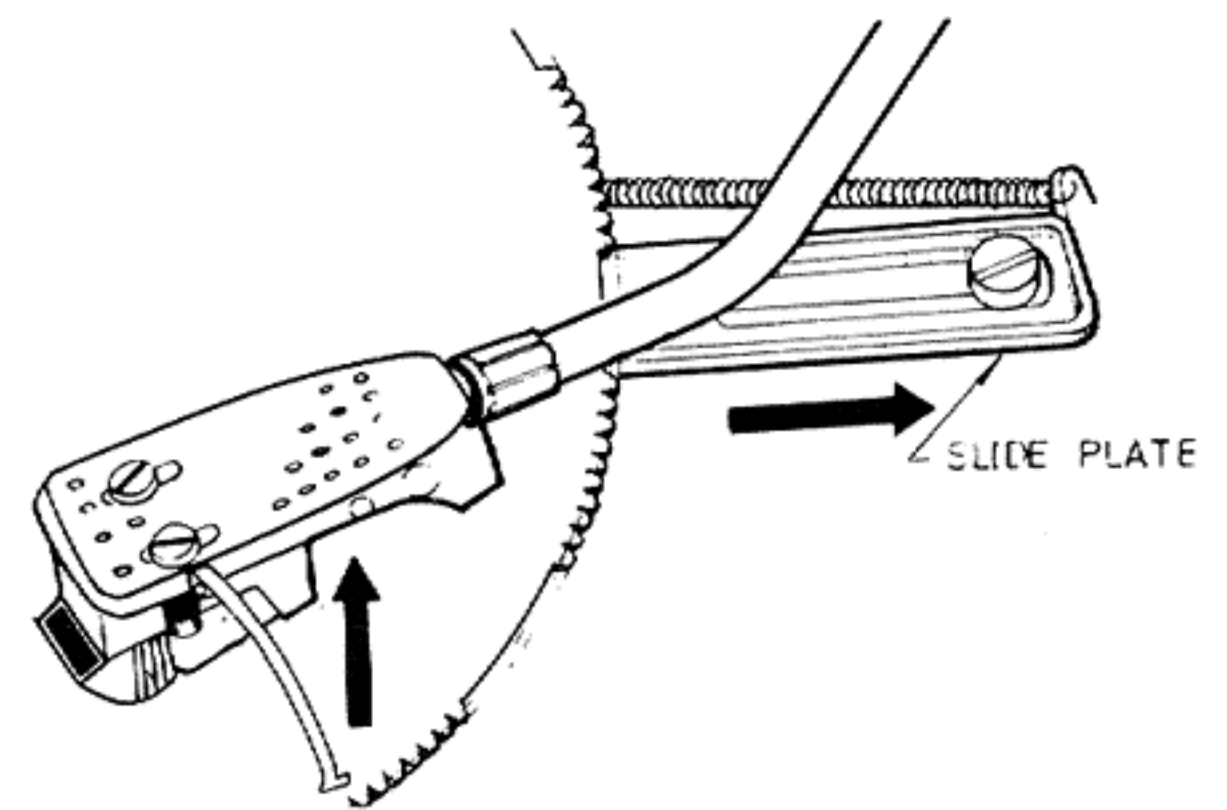

Fig. 9
2) The slide plate moves in the direction of the arrow along the cam provided under the gearing to lift up the lifting arm. The pick-up rises automatically. (Fig. 9)